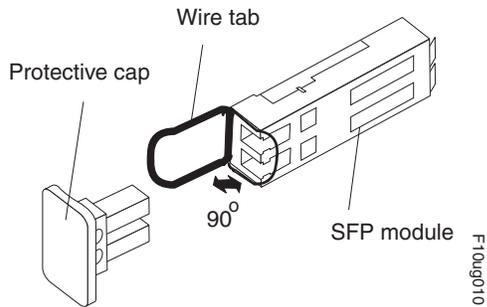

Figure 98. Unlocking the SFP module latch - wire variety
- For SFP modules that contain wire tabs, unlock the SFP module latch by pulling the wire latch outward 90°, as shown in Figure 98 on page 140.